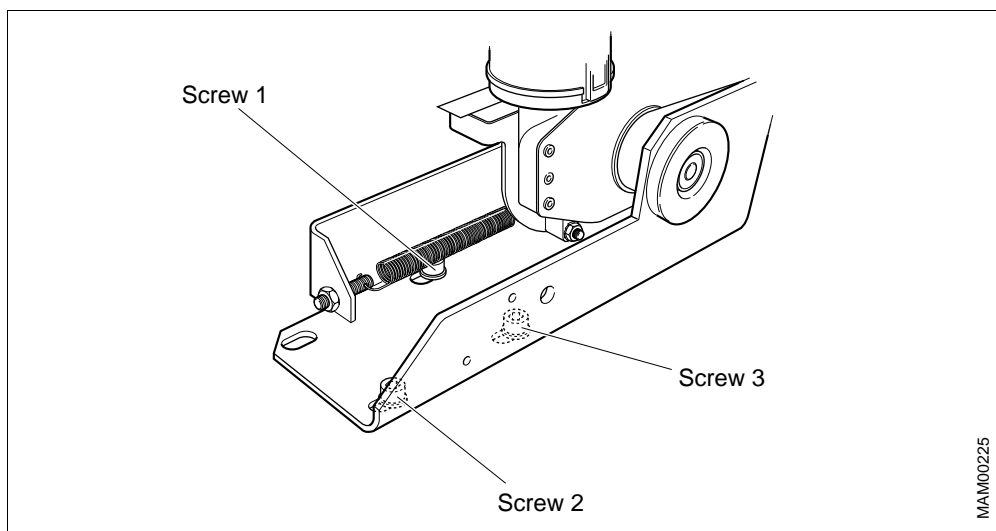

Fig. 2 Removal of compression unit
- 6.3. Loosen and remove screws and washers 1 and 2 that hold the compression unit base beam (Fig. 2).
- 6.4. Loosen screw 3 (Fig. 2) by half to tilt the compression unit slightly forward.
- 6.7. Loosen and remove screw 3 (Fig. 2), and remove the compression unit.